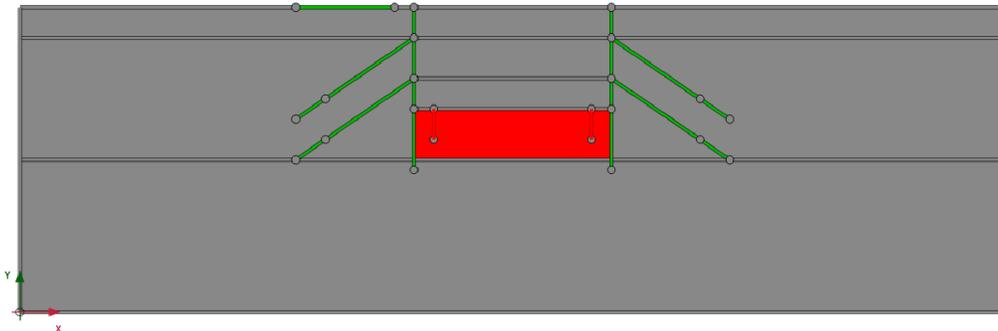

Figure 129: Indication of the local refinement of the mesh in the model
2. Select the cluster and two wells as shown in the Figure 129 (on page 148) . In **Selection Explorer** specify a **Coarseness factor** of 0.25.